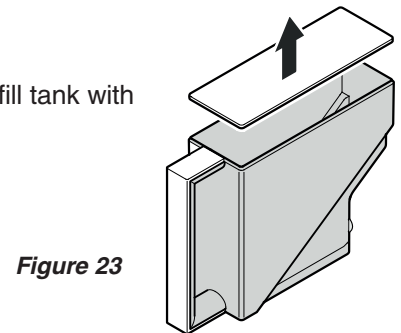

Figure 23
2. Remove cover and fill tank with water (Figure 23).